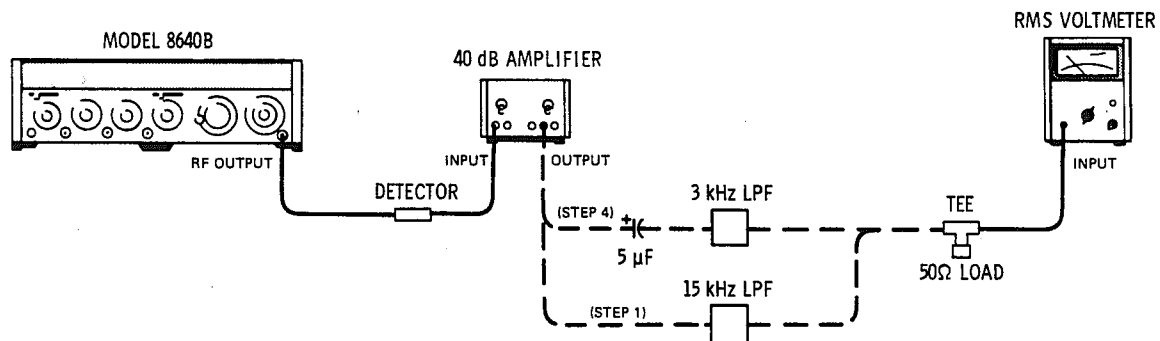

Figure 4-8. Residual AM Test Setup
1. Connect equipment as shown in Figure 4-8 (with the generator connected to the rms voltmeter through the detector, amplifier, 15 kHz LPF, and across the 50 ohm load). Set Signal Generator's controls as follows: